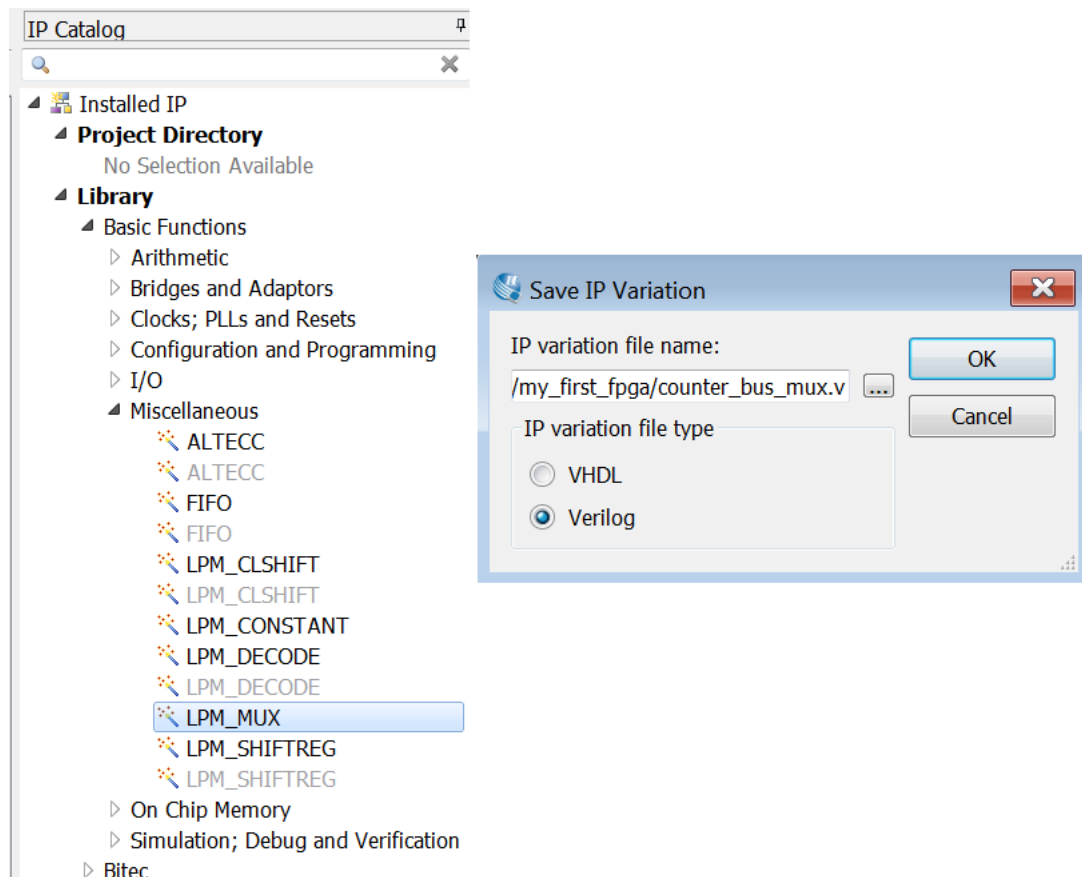

Figure 3-21 Selecting lpm_mux
5. Choose the device family that corresponds to the device on the development board you are using, choose Verilog as the output file type, and name the output file counter_bus_mux.v (see **Figure 3-21**)